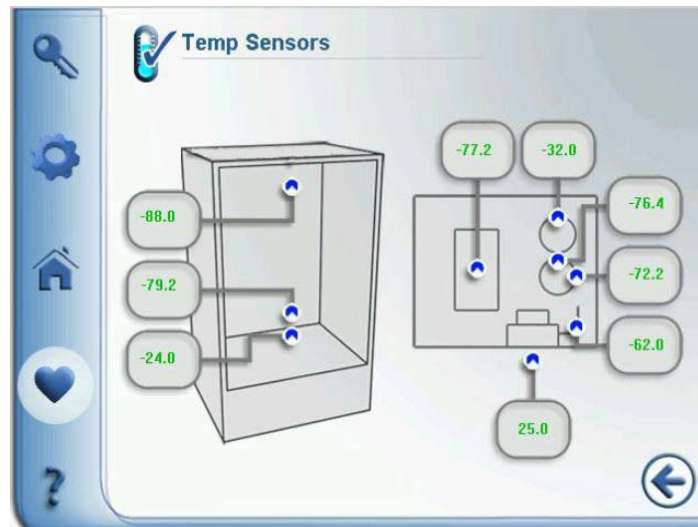

Figure 23. Temperature Sensor Screen
2. Press the File Download icon at the lower left of the Event Log screen (refer to *Figure 23*). The following screen appears: